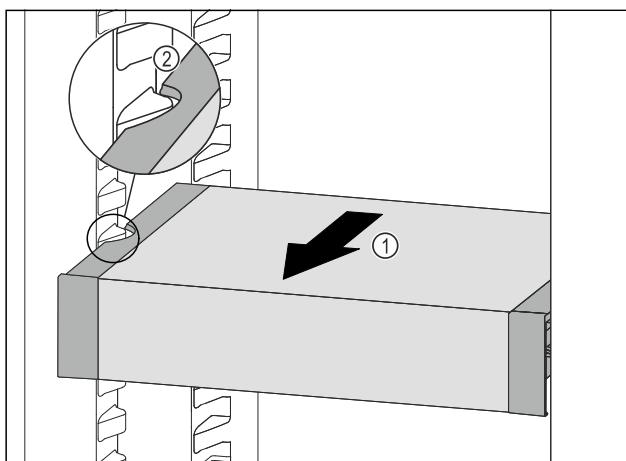

Fig. 103
- ▶ Pull VarioSafe forward Fig. 103 (1) until the recesses in the side of the VarioSafe are at the level of the support rib in the refrigerator compartment. Fig. 103 (2)